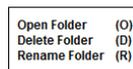

Figure 6-24A Folder Menu
1) Cursor over a folder with right click will show the pop-up menu as below (Figure 6-24A);